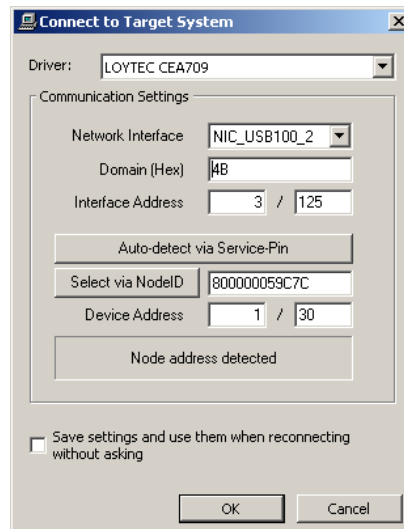

Figure 54: Connect via CEA-709
- **CEA-709:** Select the network interface to use and fill out all other fields, see Figure 54. Alternatively, select the network interface and press Auto-detect via Service-Pin. Then press the service pin on the LINX-110 device. Note that this connection method requires an installed LOYTEC network interface.